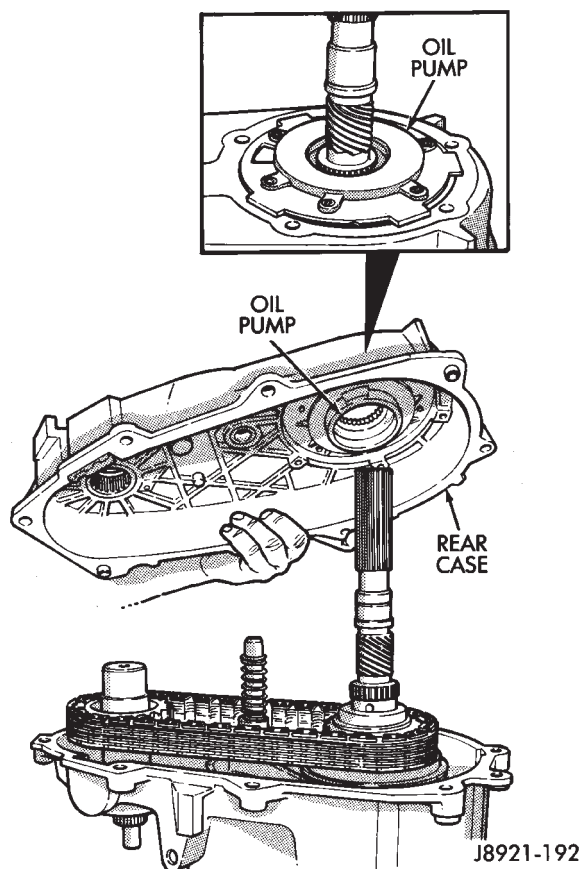
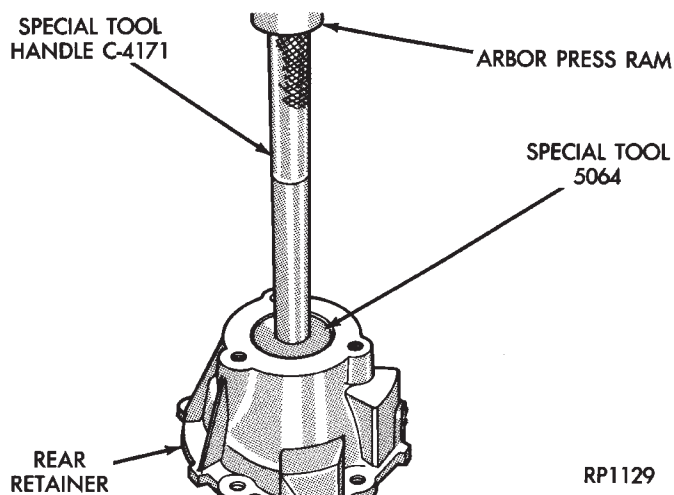

Fig. 61 Installing Rear Case On Front Case
Fig. 62 Installing Mainshaft Rear Bearing In Rear Retainer
(48) Align and install rear case on front case (Fig. 61). Be sure case locating dowels are in place and that mainshaft splines are engaged in oil pump inner gear.
(49) Install and tighten front case-to-rear case attaching bolts to 41 N•m (30 ft. lbs.) torque. **Be sure to install a washer under each bolt used at case dowel locations.**
(50) Install mainshaft rear bearing in rear retainer (Fig. 62). Tap old bearing out of retainer with hammer and brass drift. Then install new bearing with Tool Handle C-4171 and Installer 5064.
(51) Apply 3 mm (1/8 in.) wide bead of Mopar Gasket Maker, silicone adhesive sealer, or Loctite 518 to flange surface of rear retainer.